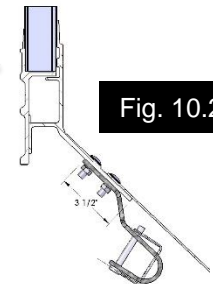

Fig. 10.2
2. Attach crank handle retainer to the curbside of trailer using supplied 3/8" rib neck carriage bolts, washers, and lock nuts as shown in figure 10.2.